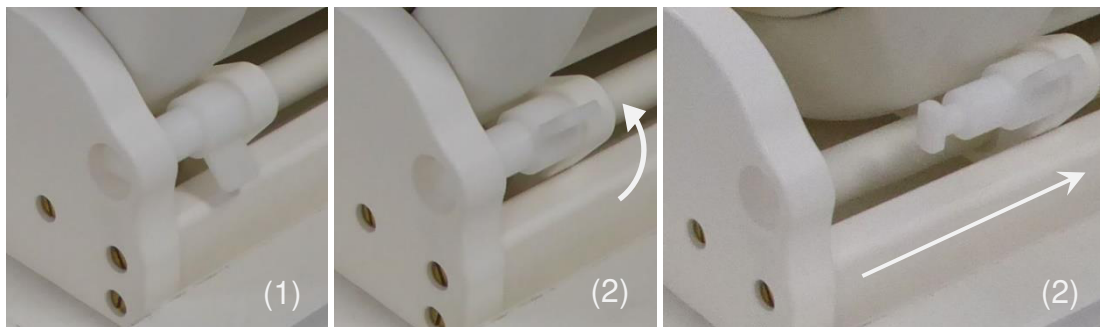

Figure C6: Example for sliding mechanism with lock – (1) locked, (2) unlocked.
5. Unlock the sliding mechanism and slide the Head Coil housing back towards the bore of the MR system (see Figure C6).